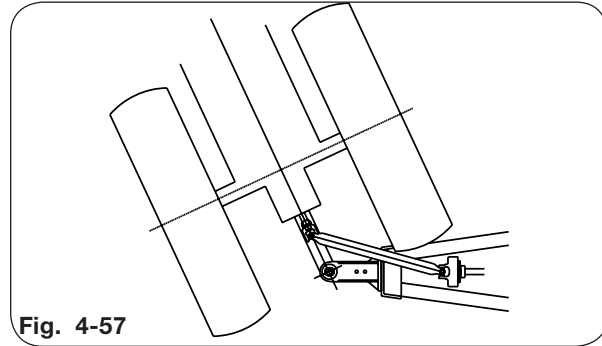

Fig. 4-57
6. Position the tractor to obtain the tightest turning angle, relative to the cart (Fig. 4-57).